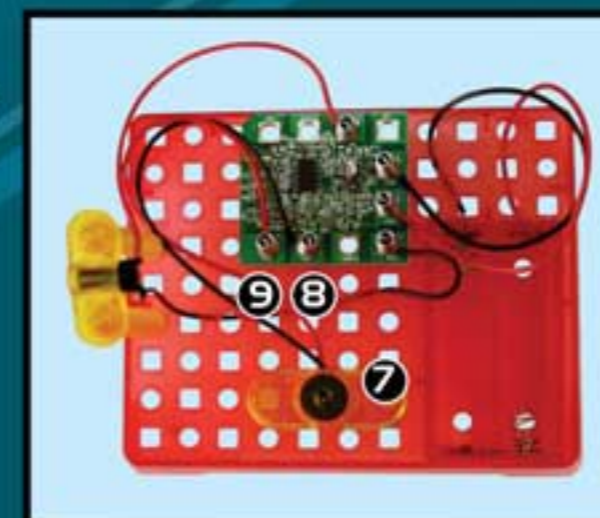

Fig. 4
- Install the buzzer (3) on the base plate. Insert two spring connectors and connect the buzzer wires to holes (VCC,OUT) as shown in Fig. 4: